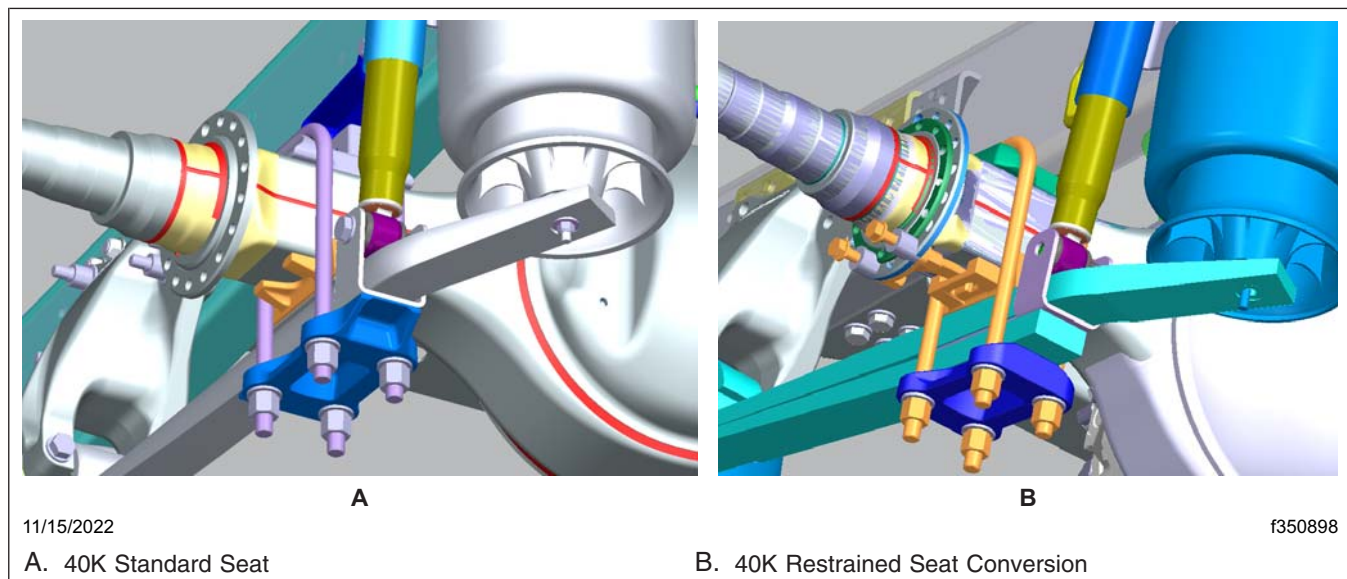

Fig. 1, 40K Standard and Restrained Seat
5. Remove the air spring assembly. For instructions, see Section 32.01, Subject 150 of the *47X and 49X Workshop Manual*. See Fig. 1.